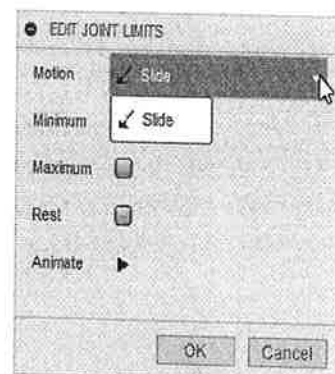

Figure 15–18
2. The EDIT JOINTS LIMITS palette opens. Note that the only permitted motion of this joint is sliding, as shown in the *Motion* drop-down list in Figure 15–18.